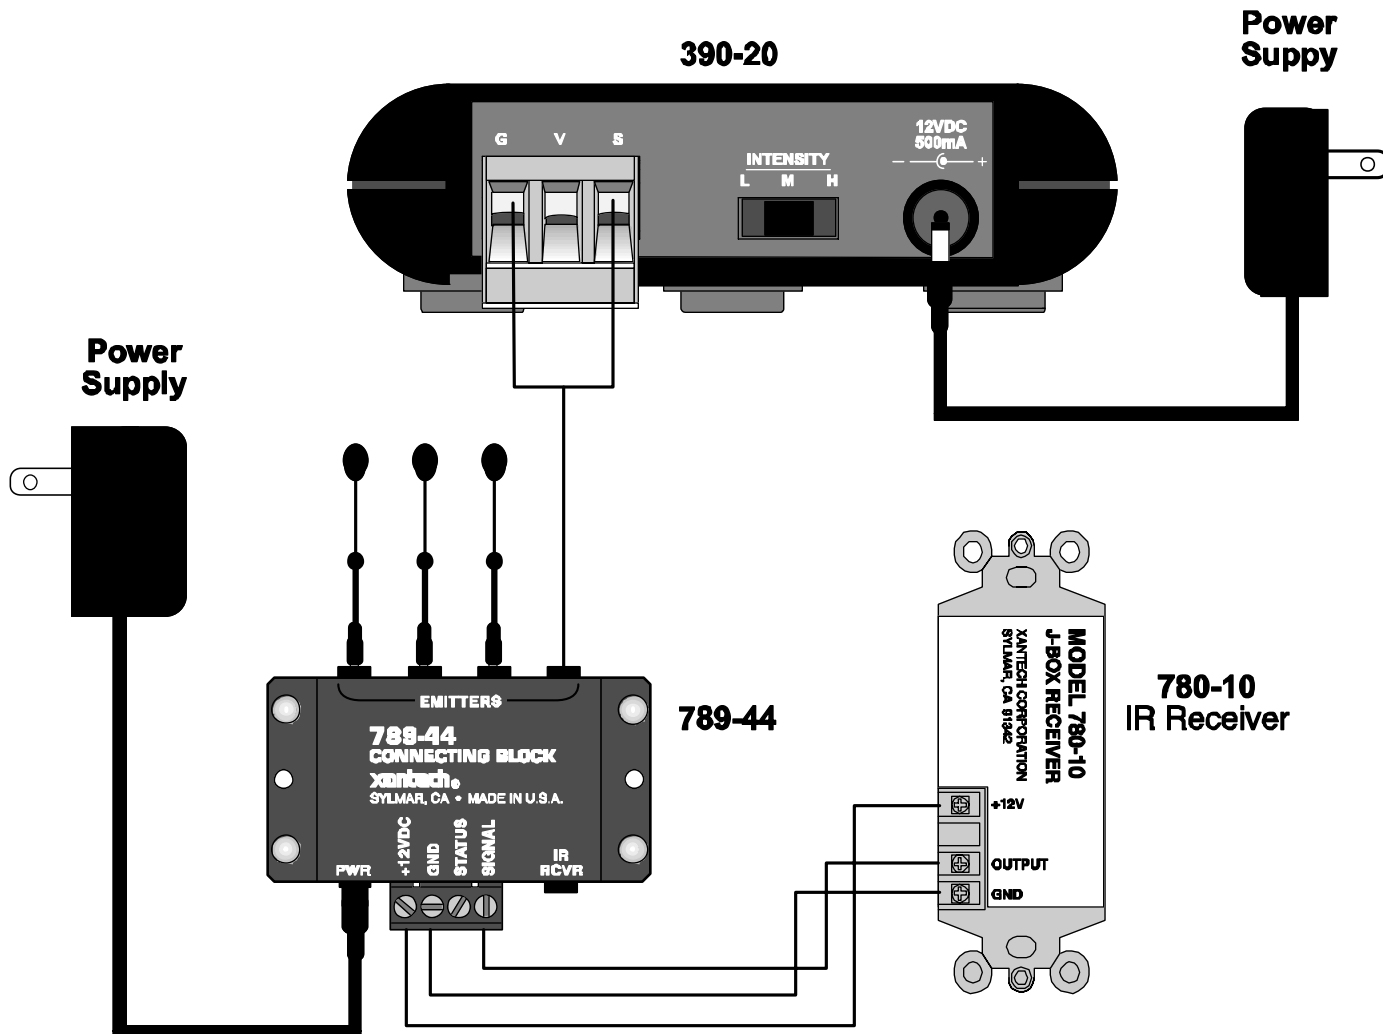

FIGURE 2
## INSTALLATION - CONNECTING BLOCK (FIGURE 2 NEXT PAGE)
STEP 3: Connect the emitters, the 390-20's mono mini cable, and IR receivers to the connecting block. See figure 2 on the next page.